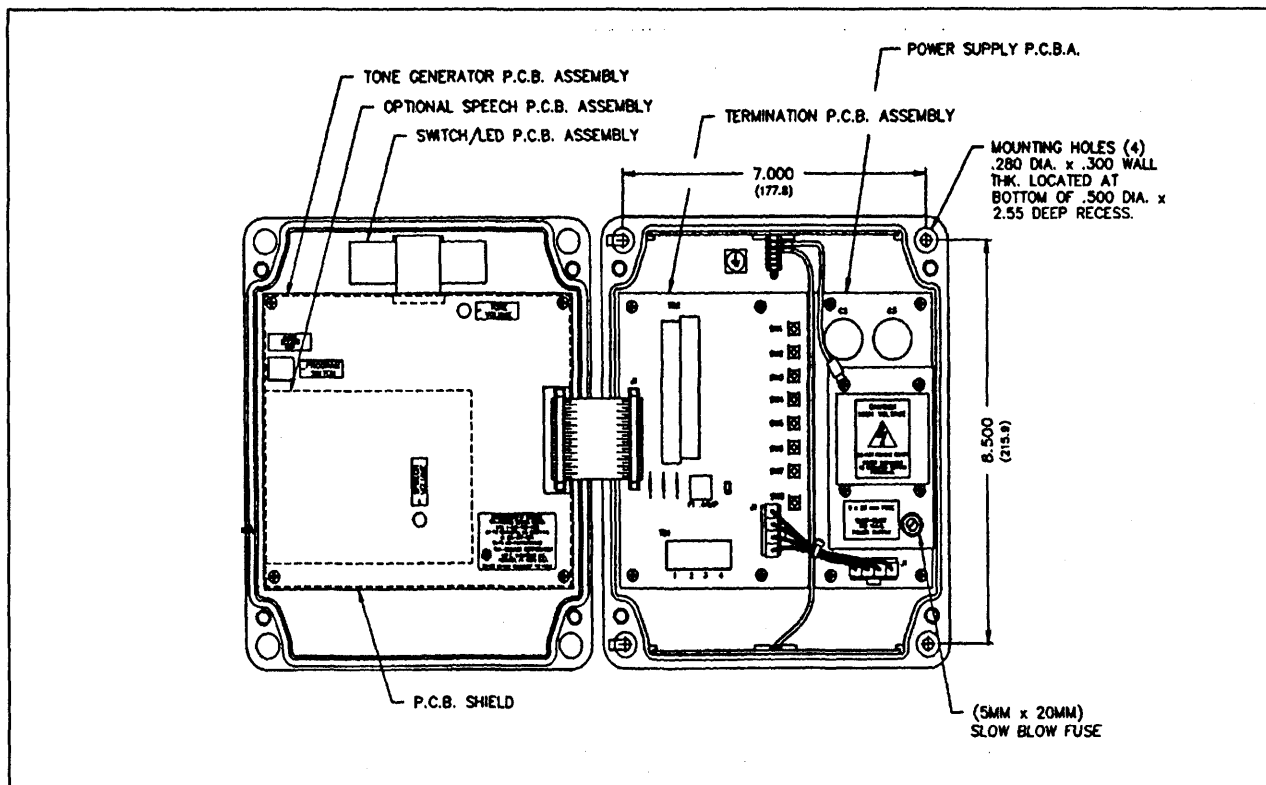

Figure 3. TS958 with new board and power supply
3. Connect the larger grounding wire to the bottom plate. Ensure that the wire is not pinched under the board. Refer to Figure 3 for details.
4. Use four of the appropriate 6-32 screws to secure the new power supply to the rear of the enclosure. See Figure 3.
5. Use four screws to secure new termination board to the rear enclosure. See Figure 3.
6. Use the two 7/8" SEMS screws to secure the transformer cover onto the power supply board. The upper left screw will also secure the ground wire connected to the top grounding plate, as shown in Figure 3.